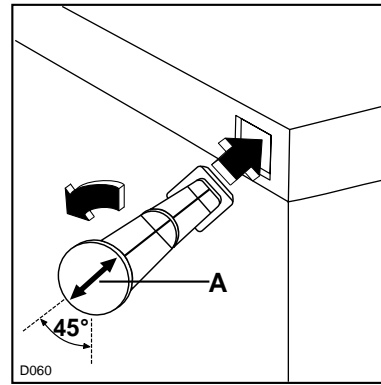

Fig. 2
Fit the spacers into the holes, taking care to ensure that the arrow (A) is positioned as shown in Fig. 2. Then turn them through 45° (arrow (A) vertical) until they lock into place.